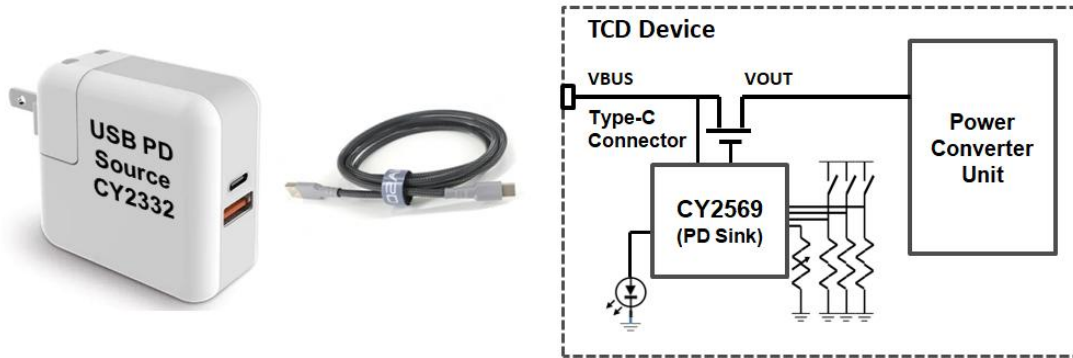

Figure 1. Typical Application structure of CY2569
Working its role as DC-Power request from a USB PD source, the CY2569 interprets power input requirements (voltage/current and maximum power) from the TCD, and then establishes power link through configuration channel (CC) communication with an external USB PD3.0 adaptor to output a suitable DC power for TCD device. The voltage requests could be easily specified by 3 pins (VSEL2, VSEL1, VSEL0), up to 8 voltages can be selected and both fixed PDO (Power Data Object) and PPS APDO (Augmented Power Data Object) in PD source adapter are supported in CY2569 search algorithm. Also, up to 10 maximum power levels can be selected through different resistance value of the resistor connected to pin PSEL (refer to figure 1 and 2).